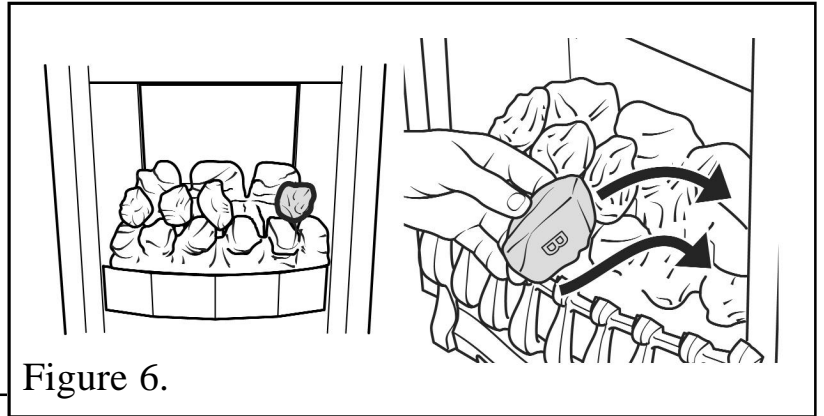

Figure 6.
6. Place the remaining type “B” coal at the right side of the firebox between the front and rear base coals. The letter “B” should be upright. The coal should touch the right side of the firebox (See figure 6).